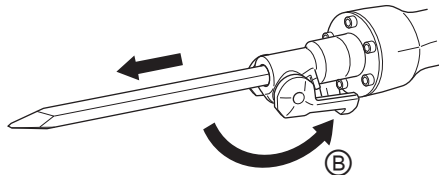

Fig. 6
- (3) Clamp the accessory into place by bringing the retainer to clamp position ㊹. To make sure that the accessory is properly mounted, pull on the accessory. (Fig. 6)